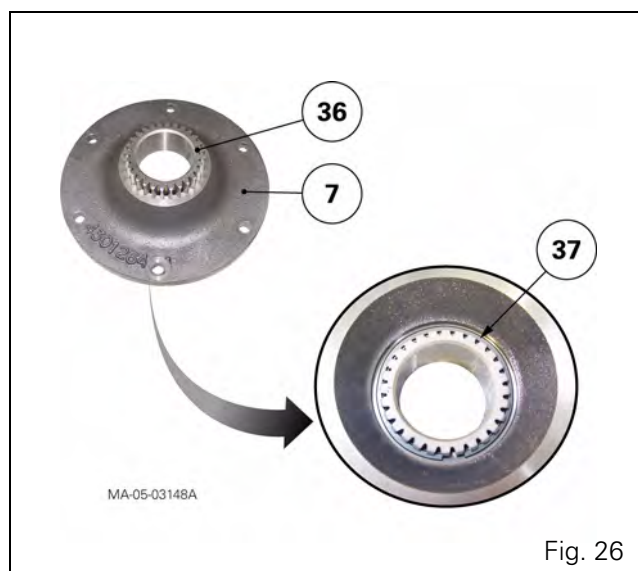

Fig. 26
45. If necessary, take out the snap ring (37) to separate the sun gear (36) from the clutch cover (7) (Fig. 26).